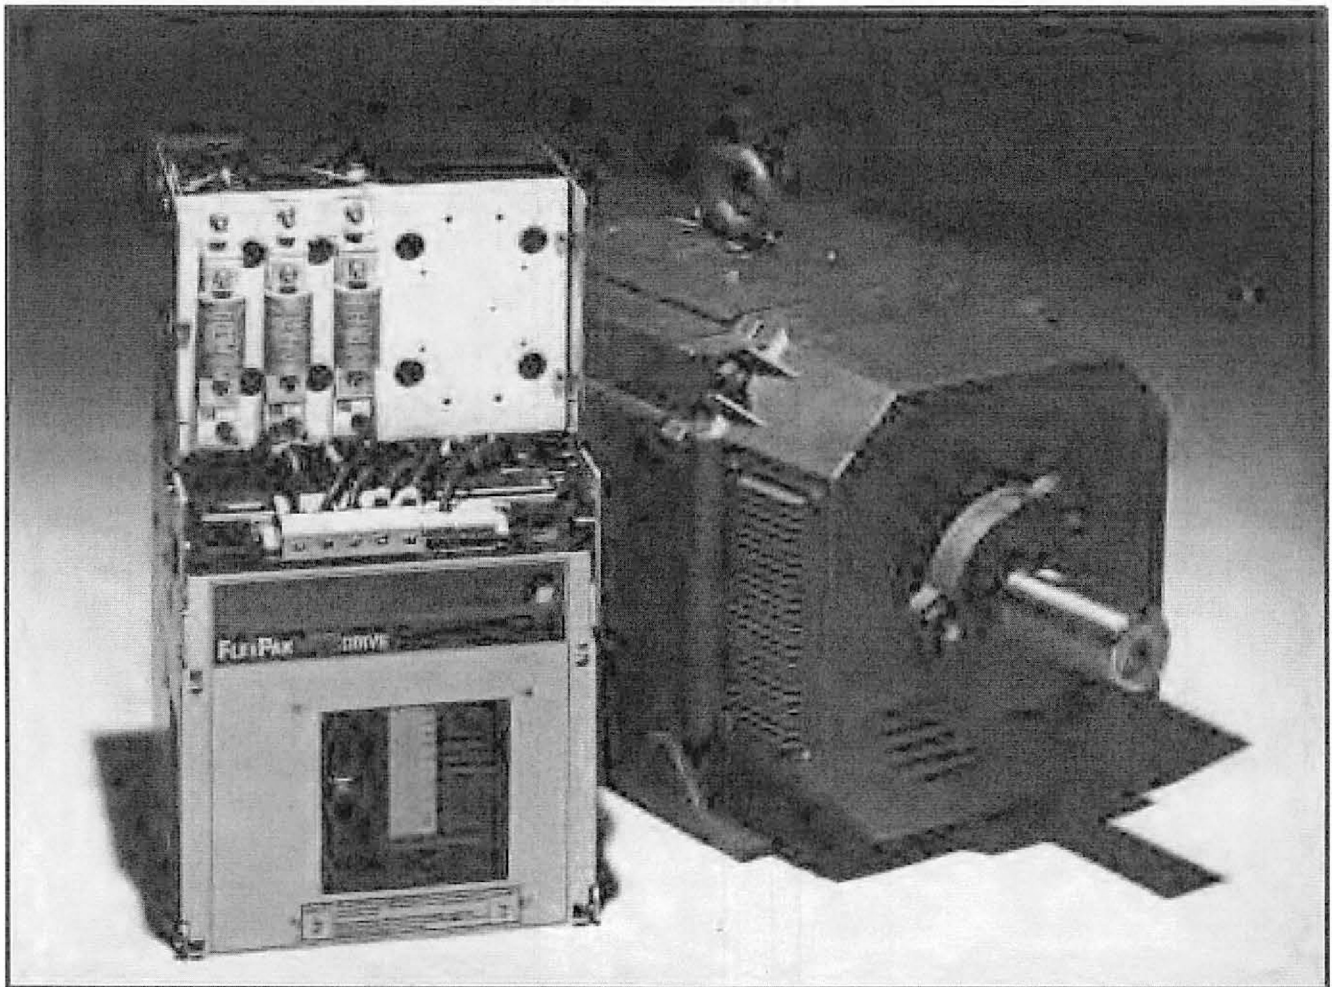

Figure 1.1 – FlexPak Plus Complete w/Optional Status Diagnostic Indicator and Super RPM Motor
**1.0 General** – This manual familiarizes the user with the three phase, FlexPak™ Plus D-C V★S® drive controller. (Refer to Figure 1.1.) It describes assembly and installation procedures, gives a general overview of operations, and contains information on troubleshooting, maintenance, the ordering of spare parts, and specifications.